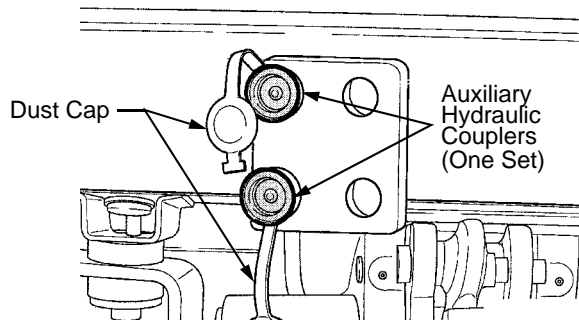

Figure 38
- Remove dust plugs or caps from the couplers. Refer to Figure 38.